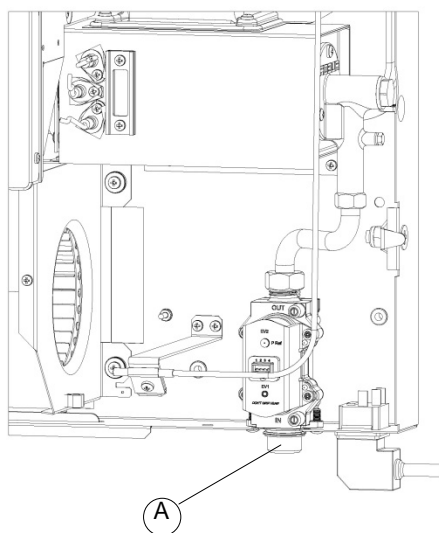

Figure 11 – Gas supply position
2. Connect the gas pipe to the threaded union on the lower right of the heater frame (see reference A in Figure 11).